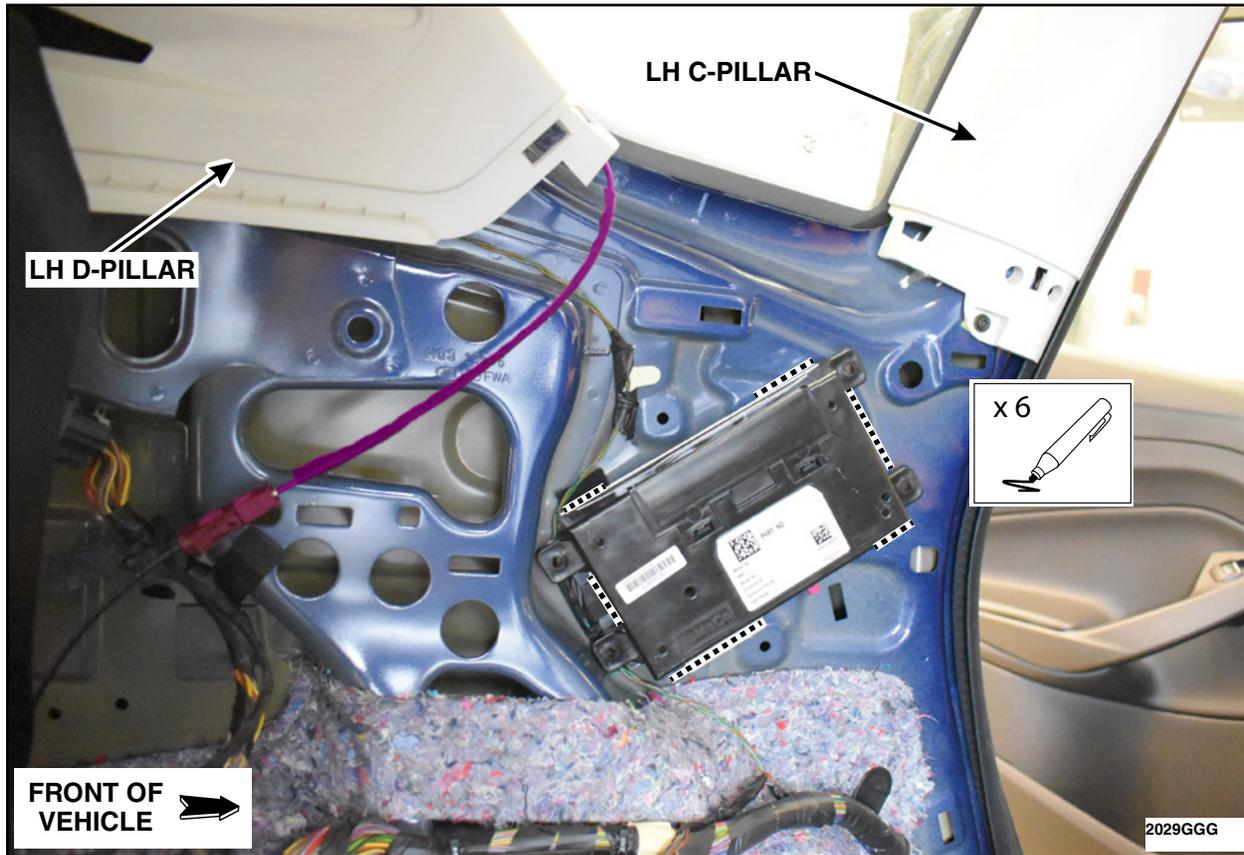

FIGURE 4
7. Temporarily place the 4G TCU in the position shown. Using a marker, mark the edges of the TCU onto the sheet metal of the vehicle. See Figure 4. Remove the TCU from the vehicle and place it on a bench metal side up.